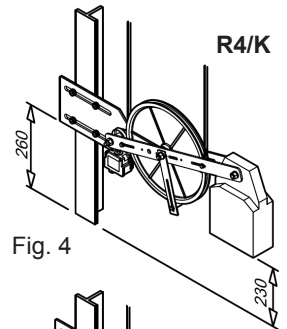

Fig. 4
- Models with the horizontal counterweight mount the mounting support at about 260mm (approximate value: Fig. 4) from the bottom of the shaft.
- Support the counterweight of the models with horizontal counterweight until it is in an oblique position (Fig. 4).
If the assembly has been properly carried out, the horizontal counterweight should take a slightly upward angled position (fig. 4).